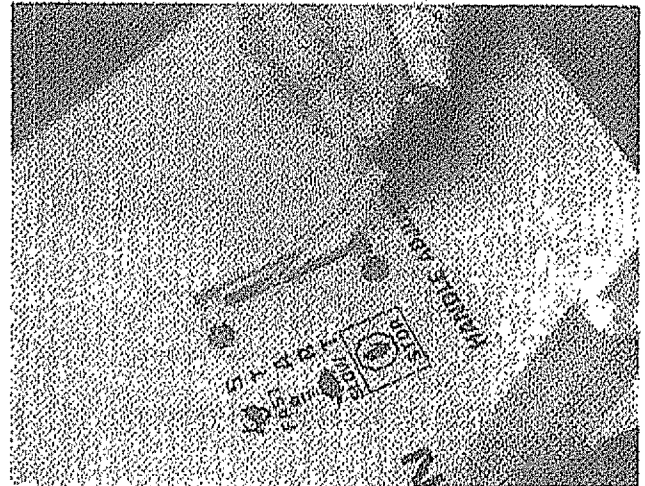

FIGURE 19.
- A. Stop—Pull lever back (upward) to stop the engine. See figure 19.